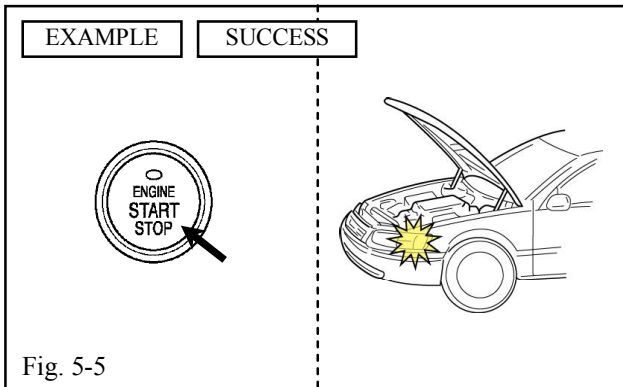

Fig. 5-5
- (i) Start the Engine, after 10 seconds stop the engine. (Fig. 5-5)
- (j) The Hazard Lights flash once. Registration is completed. (Fig. 5-5)